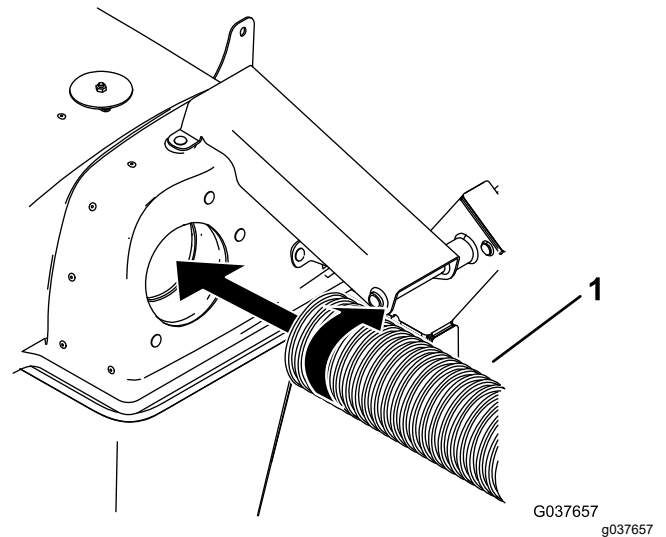

Figure 21
1. Thread 1 end of the hose into the hood 2 to 3 threads (Figure 21).